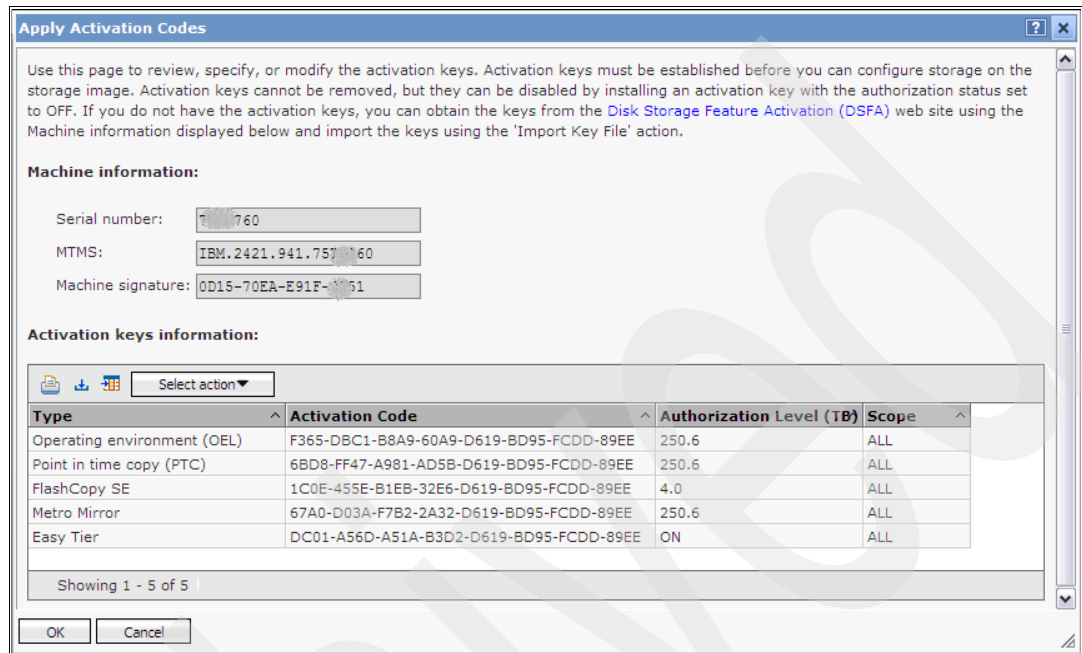

Figure 10-15 Activation codes applied
- To view all the activation codes that have been applied, from My Work navigation pane on the DS Storage Manager Welcome window, select **Manage hardware** → **Storage Complexes**, and from the drop-down Select action menu, click **Apply Activation Codes**. The activation codes are displayed, as shown in Figure 10-15.